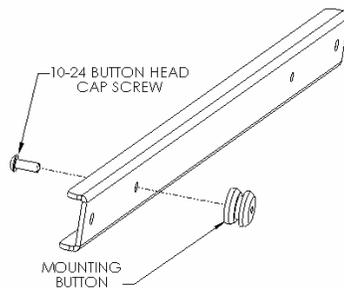
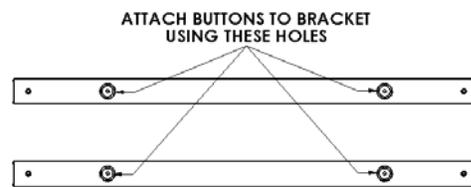

Figure 2
Figure 3
1. Using a 10-24 button head cap screw inserted from back side of bracket, secure mounting button, with chamfered hole of mounting button (larger surface) facing bracket, to top and bottom brackets (four places) (see Figure 2 & Figure 3).